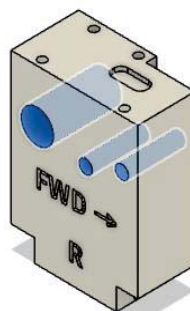

Figure 0-11
- 3 holes on the side face of the right block. Refer to Figure 0-11